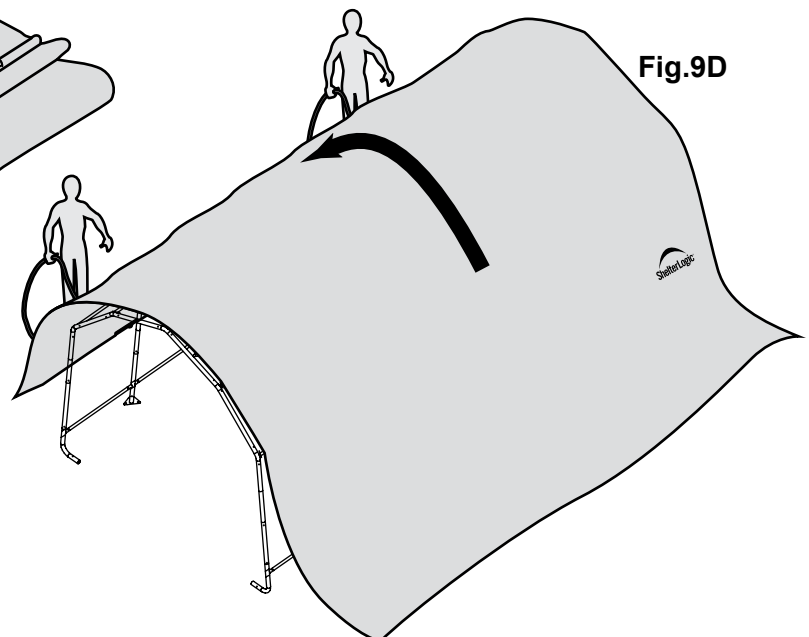

Fig.9D
**D.** Move to the other side of the frame and pull the cover over the frame with the rope. This may require two or more people. Fig. 9D.